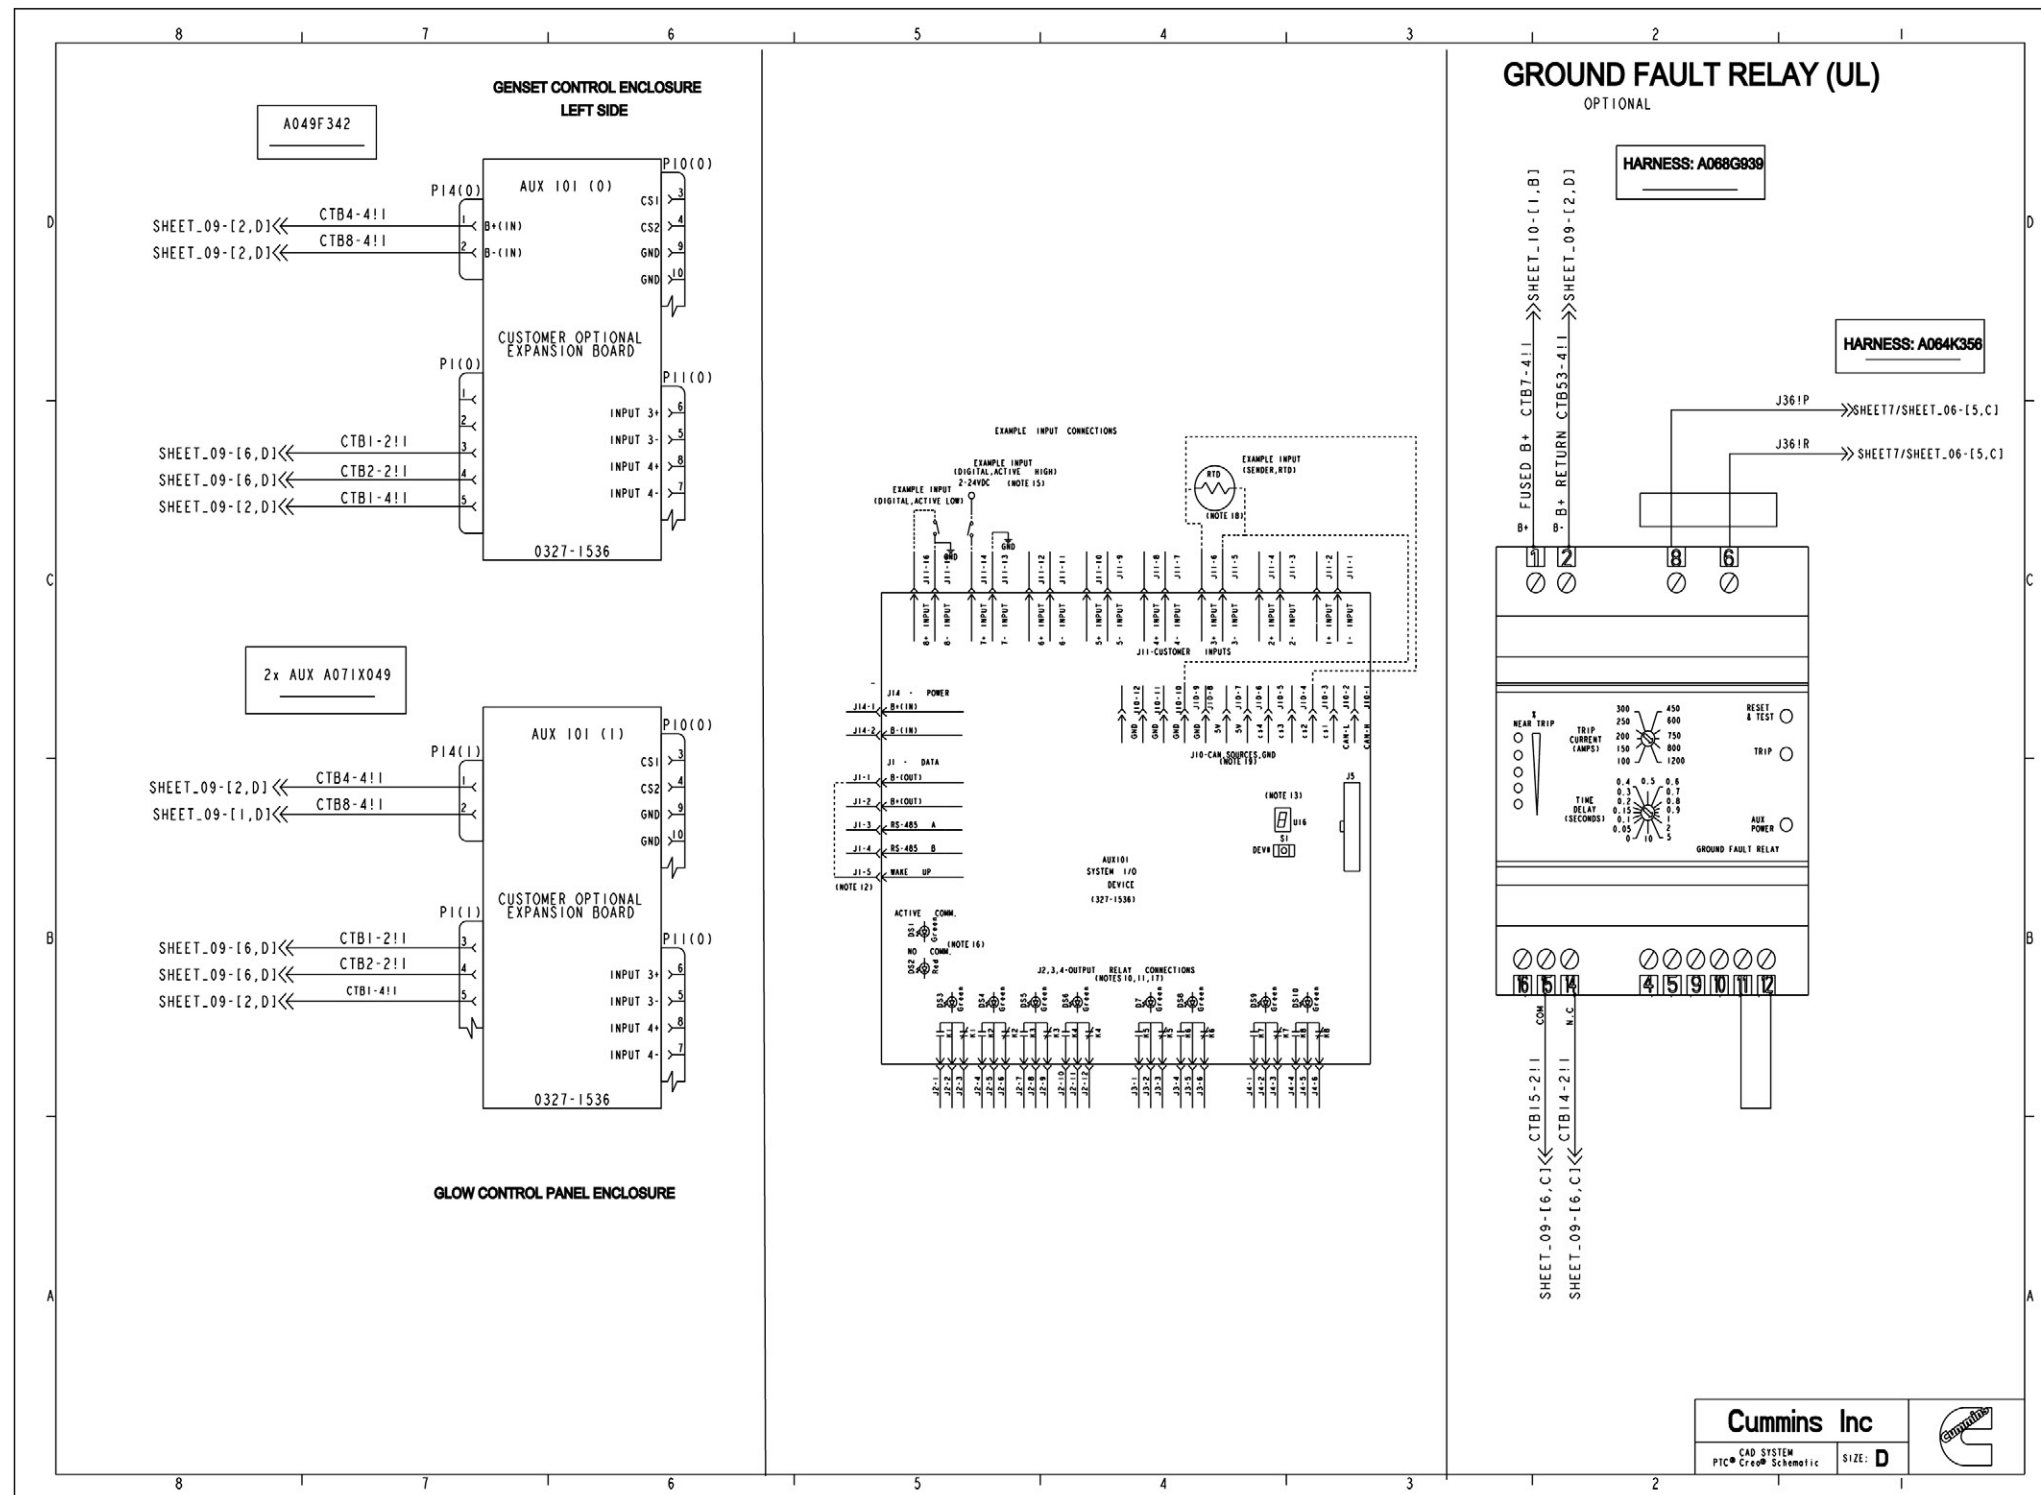

FIGURE 66. WIRING SCHEMATIC (SHEET 11)
- Figure 66. Wiring Schematic (Sheet 11) 121